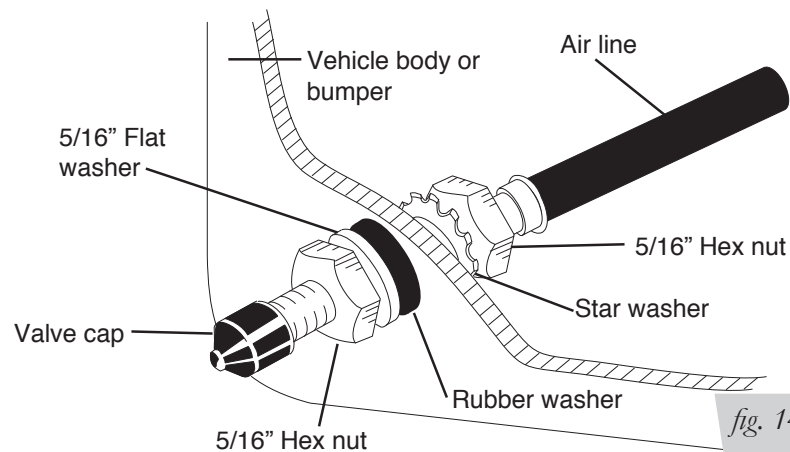

fig. 14
4. Place a 5/16" nut and star washer on the air valve. Leave enough of the inflation valve in front of the nut to extend through the hole and have room for the rubber washer, flat washer, and 5/16" nut and cap. There should be enough valve exposed after installation—approximately 1/2"—to easily apply a pressure gauge or an air chuck (fig. 14).